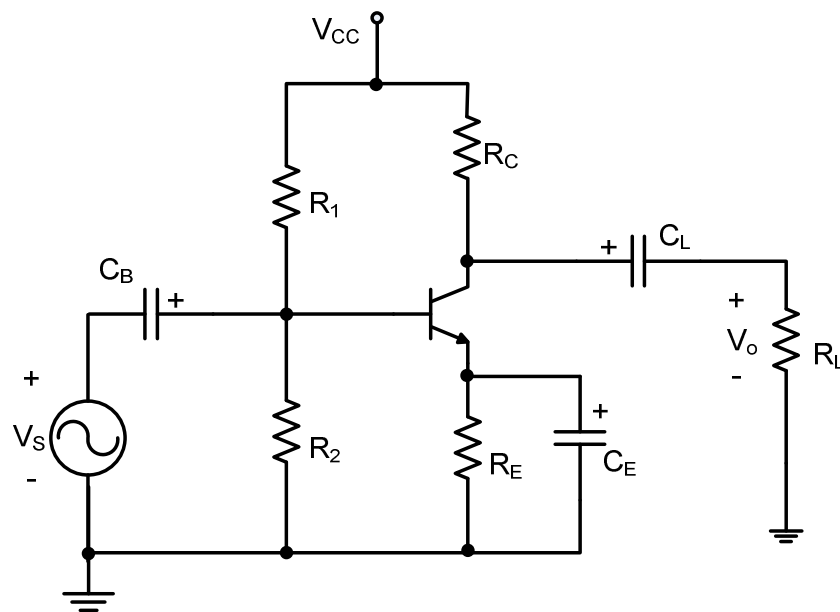

Fig. 1
- 1) Build the circuit in Fig.1 with the values you calculated in part (1) of the preparation. If necessary, re-adjust R_1 , R_2 so that $I_{CQ} \approx 1\text{ mA}$.
- 3) Repeat (2) with C_E removed.
- 4) Replace R_1 , R_2 with the ones found in the pre-lab preparation part (4) and measure the new unclipped output.
- 5) Repeat (4) with C_E removed.